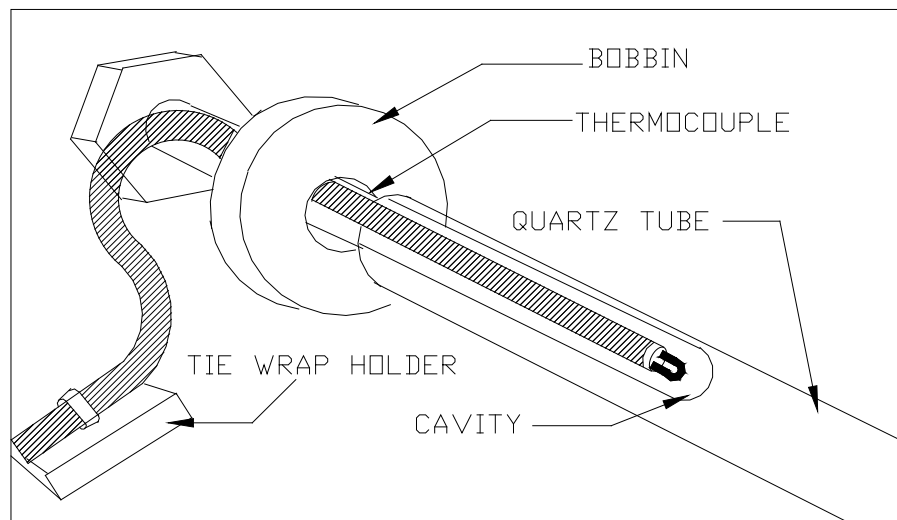

Figure 2-4. Thermocouple Installed
2. See Figure 2.4. – 501TS Layout
13. The thermocouple should now be properly seated in the cavity of the quartz tube. Refer to Figure 2-4